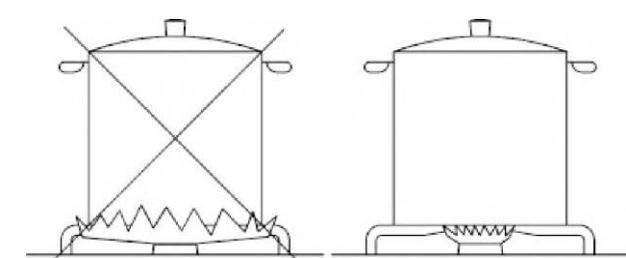

FIG. 2
- It is necessary to use pans corresponding to each gas ring (refer to the Table below and Fig. 2).